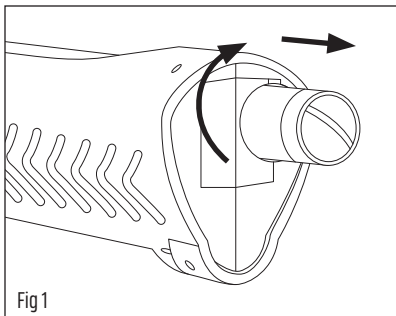

Fig 1
1. Remove Projectile Plunger from the rear of the LifeLite™ by pushing in and turning approximately 1/8 turn clockwise. A tab on the Projectile Plunger will line up with a notch in the body of the LifeLite™ so it can be removed. (Fig 1)
1. The LifeLite™ is now ready to fire. Aim the LifeLite™ at the intended target and slide the safety to the forward position. This will activate the laser and also reveal the red trigger. Aim the laser on the target and firmly press the red trigger straight down with your thumb until projectile is launched. (Fig 1)